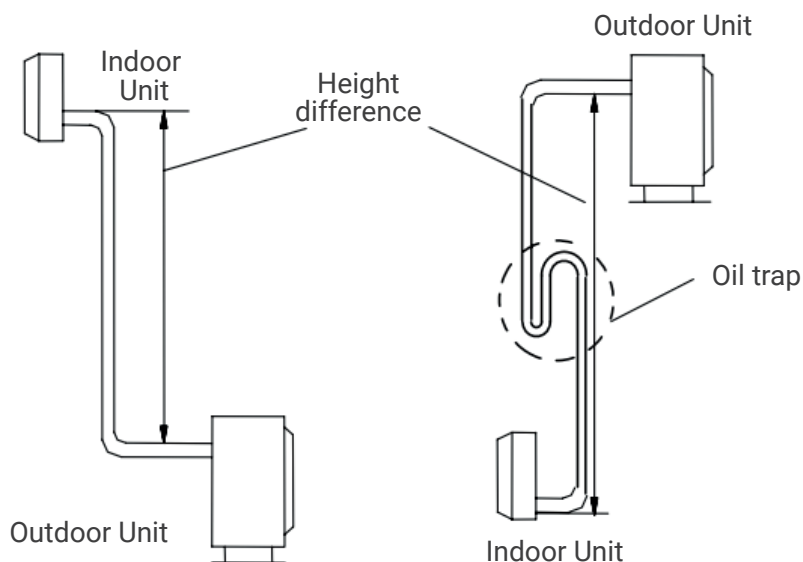

Fig.3
- If the installation position of the outdoor unit is higher than indoor unit and the tubing is longer than 10m,added a oil trap on the gas tubing for every 8m.(Fig 3)